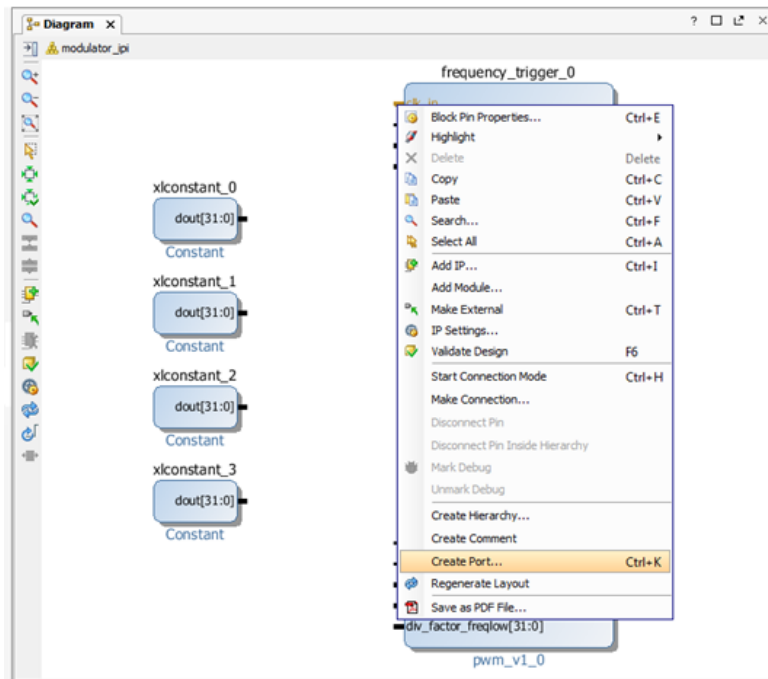

Figure 30. Create Port option Create Port option
- Select **clk_in** pin, right-click on it and select **Create port...** option, see Figure 30